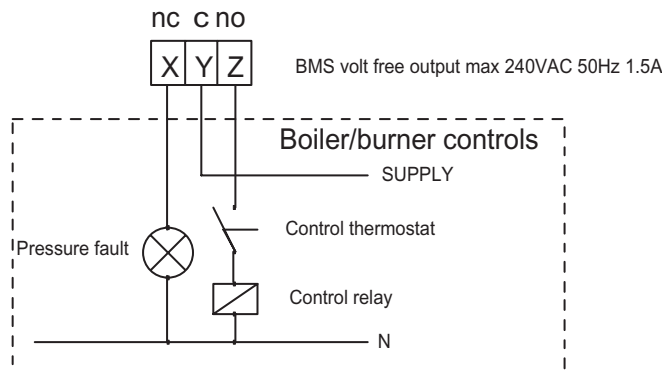

Fig 1.7 Typical Boiler Interrupt Circuit (wiring by others)
1.3.6.4 Make any BMS connections required to terminals A-Z on Interface card inside control panel. Connect boiler/chiller terminals nos. X,Y,Z on interface card in series with the boiler/chiller control circuits so that in the event of a fault condition occurring the boiler/chillers shut down and remain inoperative until the fault condition is rectified. A typical arrangement is shown in fig 1.7.